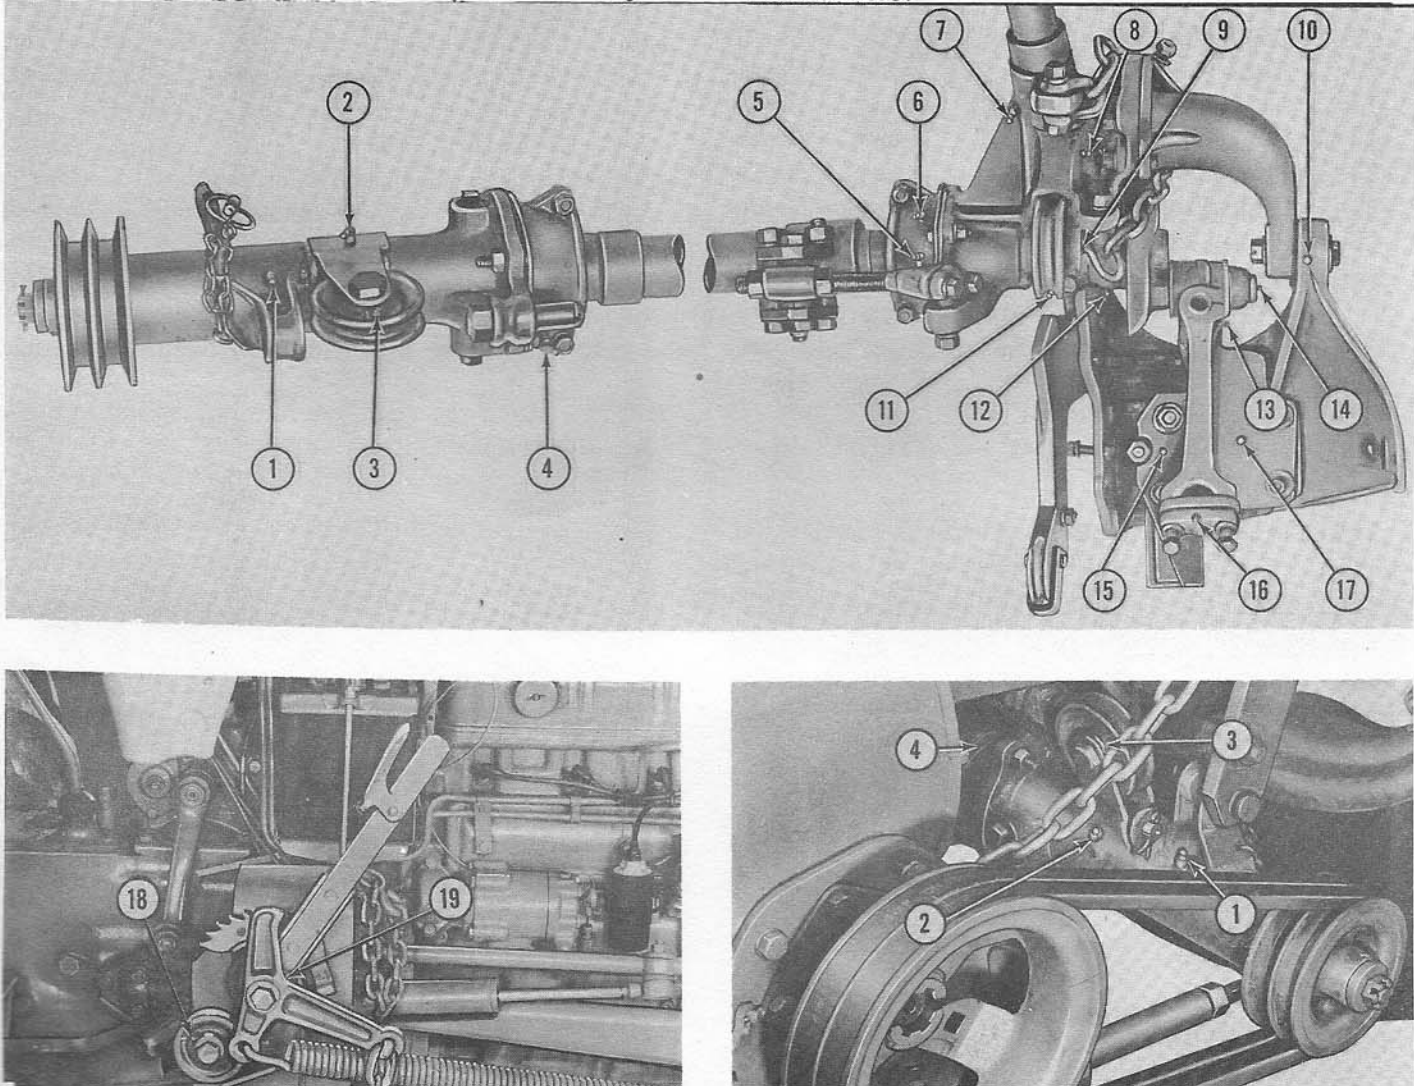

Figure 2
The front universal joint (6), Figure 2, and the rear universal joint (4) on the mower drive shaft, are packed with SAE 160 lubricant at the factory and should be checked once a year.